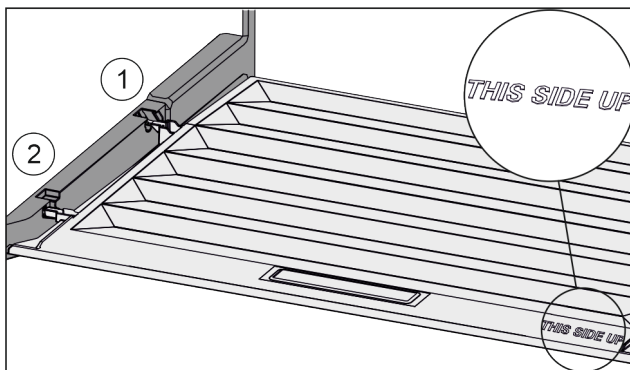

Fig. 43
- Insert the lip of the cover over the opening of the rear bracket Fig. 43 (1) and click into place Fig. 43 (2).